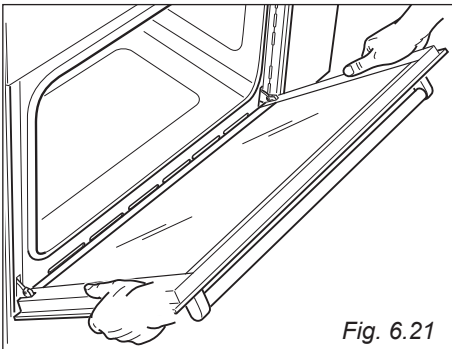

Fig. 6.21
- Hold the door as shown in fig. 6.21.